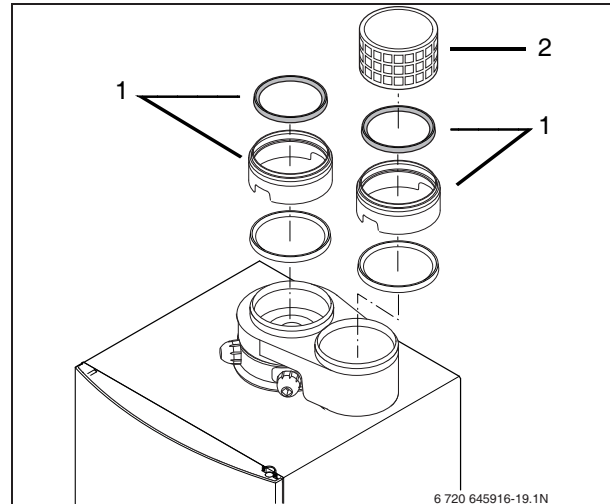

Fig. 19 Connecting the flue gas adapter (parallel)
- When installing PVC vent pipes remove the upper lip ring and insert (fig. 19, [1]).
- In case of open venting, use basket (fig. 19, [2]) on the air intake.